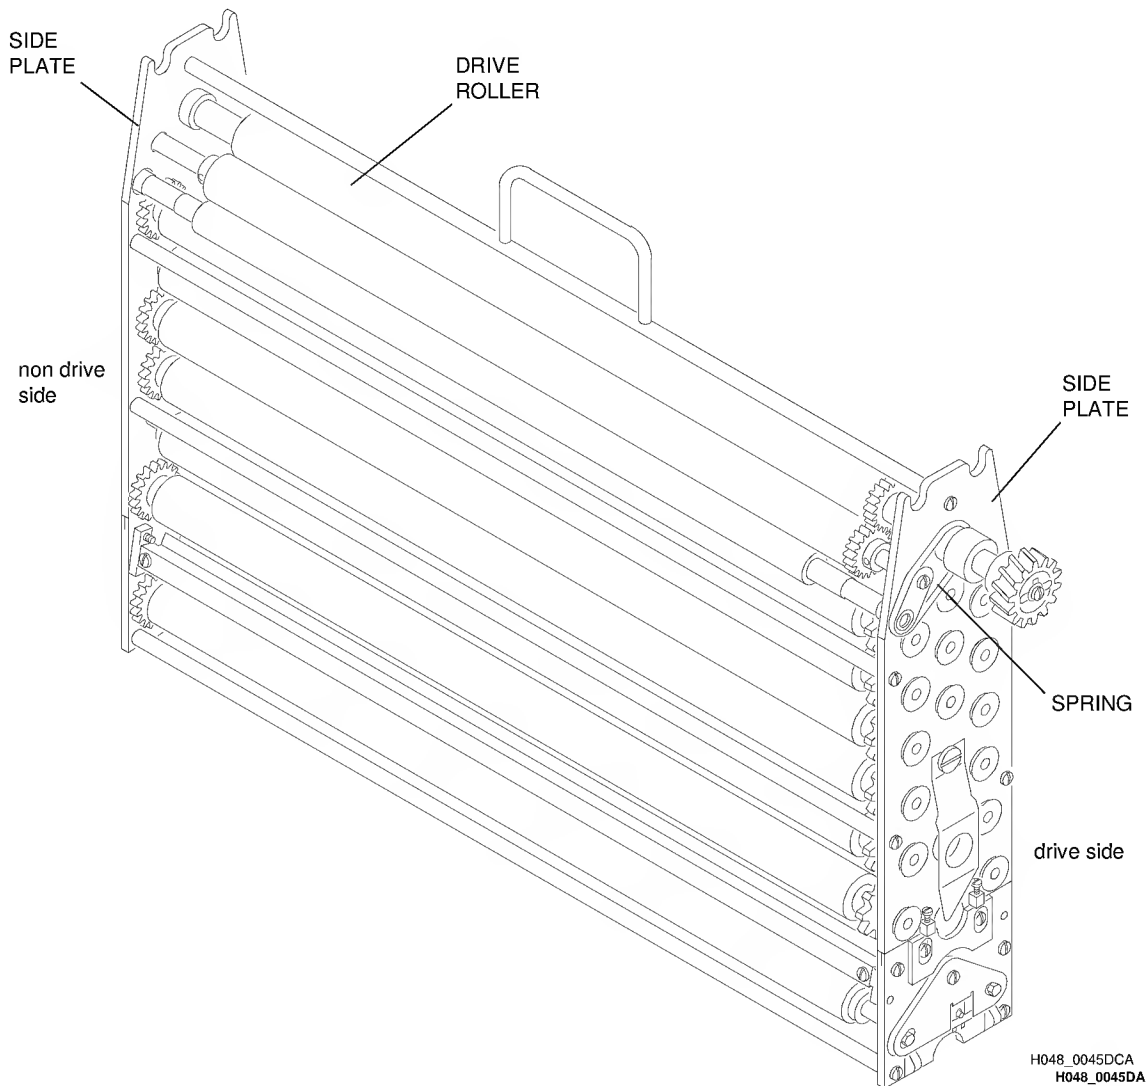

Figure 2-5 Removing the Resilient G Roller from the Developer or Fixer Rack
- [1] At the top of the RACK ASSEMBLY, remove the SPRING from both ends. See Figures 2-5 and 2-6.